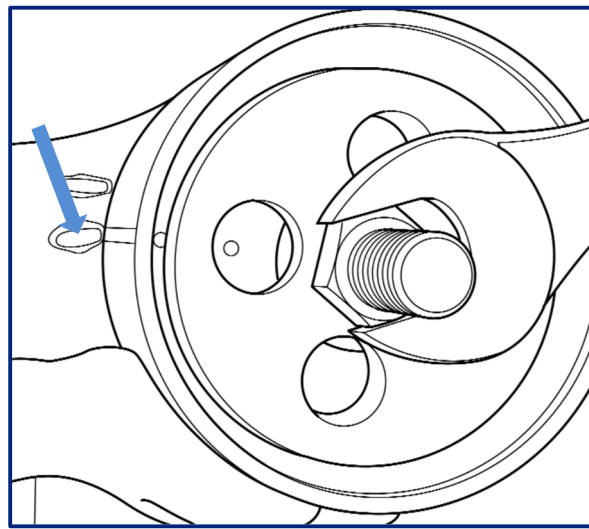

Fig 28
7. Rotate the funnel "D" so that the mark is aligned to the mark on the trailing arm (Fig 28).